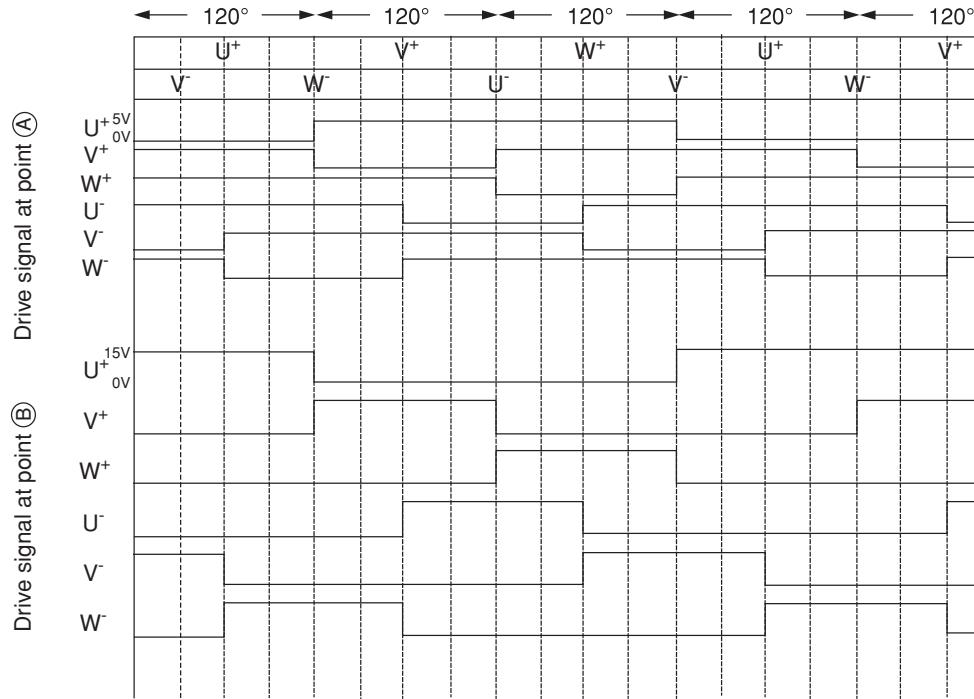

Fig. 7-3
- In high speed rotation mode (PWM range), as shown in Fig. 7-3, 0-5V drive signal is output from microcomputer for each phase (with no chopper because of full duty). Signal output from microcomputer is input to IC1 and is inverted by active LO to become 0-15V drive signal; it is then drive the transistor of each phase.